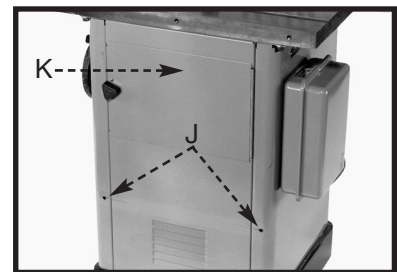

Fig. 22
4. Measure down 21" from the surface of the shaper table and draw a line on the cabinet door side (Fig. 22). Hold the rail against the cabinet with the short end of the rail to the front of the saw, and mark the drill guides on the marked line. Drill 7/16" holes at these marked locations (J) Fig. 22.